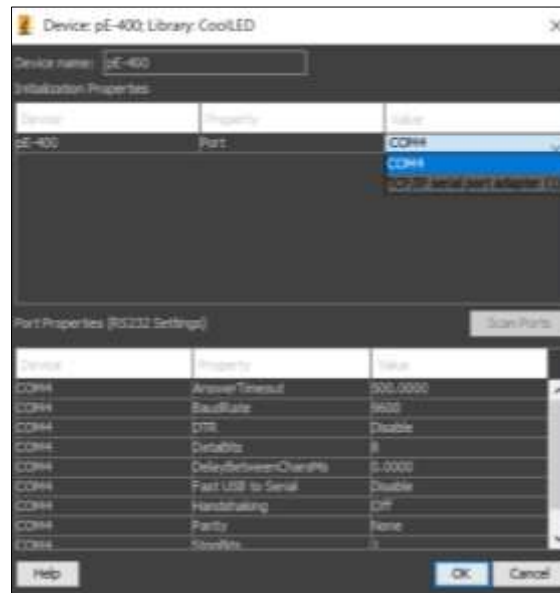

Figure 6: Selecting the COM port
- The parameters listed in 'Port Properties' (Figure 6) default to working parameters and generally should be left alone, although the BaudRate can be changed to 576000. It is possible to alter these later if required. Then click 'OK'.